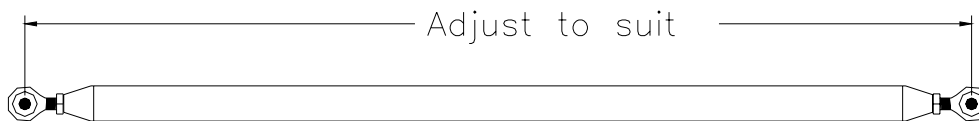

Figure 20.3.6
7) Adjust the connector tube to fit between the Control Sticks. Make sure the sticks are vertical. Figure 20.3.6.